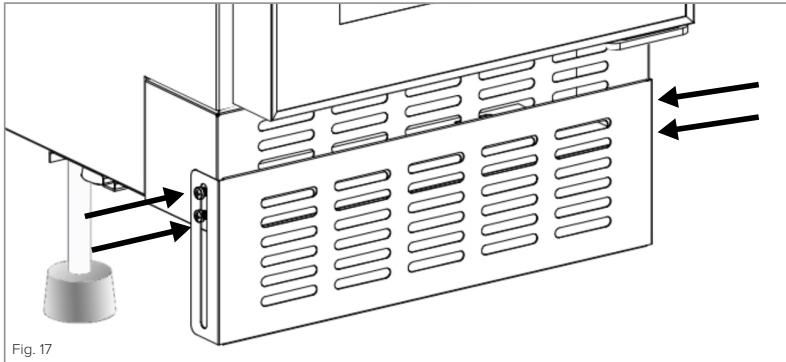

Fig. 17
1. Loosen the two screws on each side of the plinth trim (four altogether - Fig. 17).